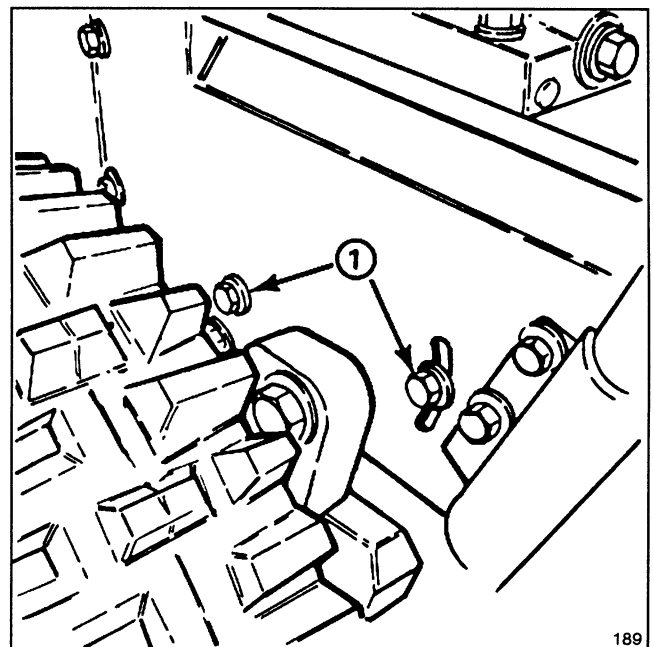

Figure 35
4. Loosen (4) flange head capscrews (2 each side) securing transmission frame to engine frame (Fig. 35).